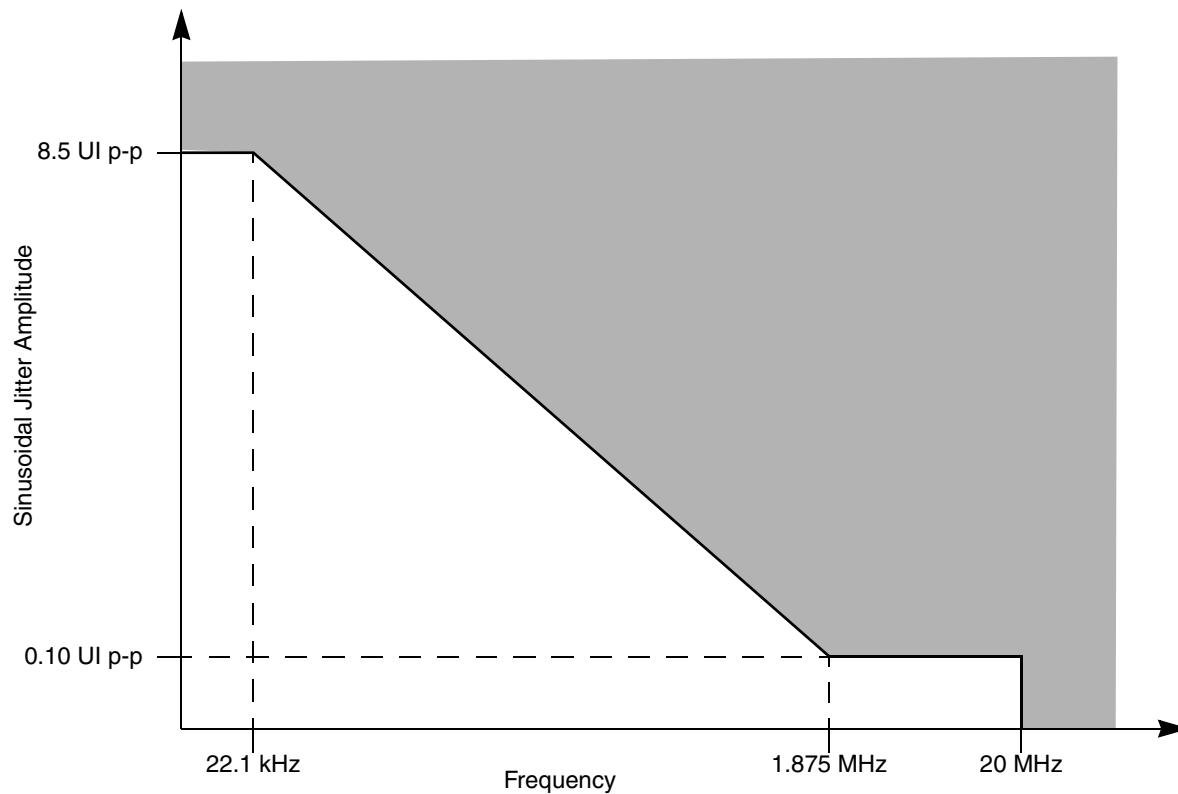

Figure 53. Single Frequency Sinusoidal Jitter Limits
1. Total jitter is composed of three components, deterministic jitter, random jitter, and single frequency sinusoidal jitter. The sinusoidal jitter may have any amplitude and frequency in the unshaded region of Figure 53. The sinusoidal jitter component is included to ensure margin for low frequency jitter, wander, noise, crosstalk, and other variable system effects.
1. Total jitter is composed of three components, deterministic jitter, random jitter and single frequency sinusoidal jitter. The sinusoidal jitter may have any amplitude and frequency in the unshaded region of Figure 53. The sinusoidal jitter component is included to ensure margin for low frequency jitter, wander, noise, crosstalk and other variable system effects.